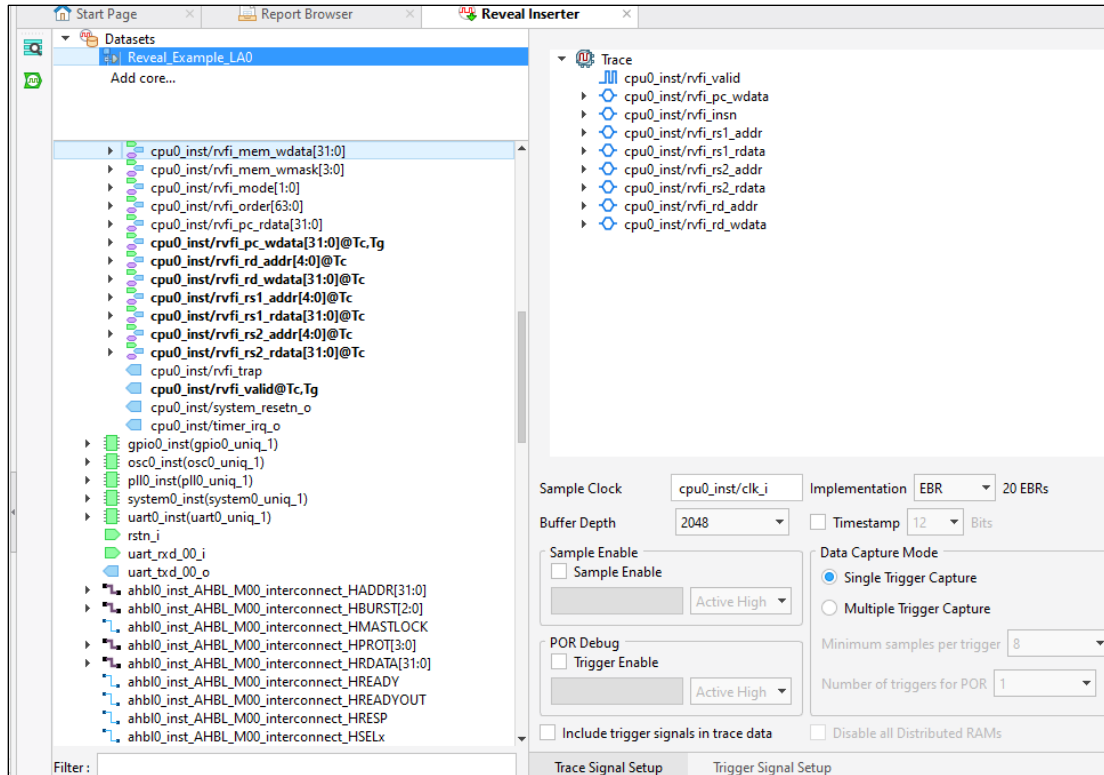

Figure 3.47. Adding New Logic Analyzer and RVFI Signals
3. Add a new logic analyzer. Then add the RVFI signals as trace signals accordingly (Figure 3.47). Table 3.1 describes each RVFI signal.